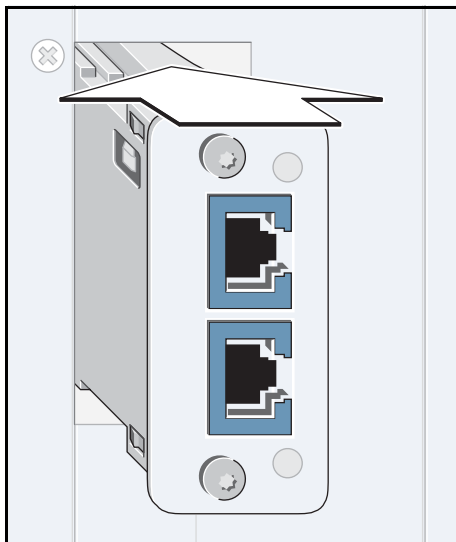

Abb. 2: Example: Inserting the interface module
2. Insert the IMpnio2 interface module into the appropriate slot on the system component until it catches (example in Fig. 2).